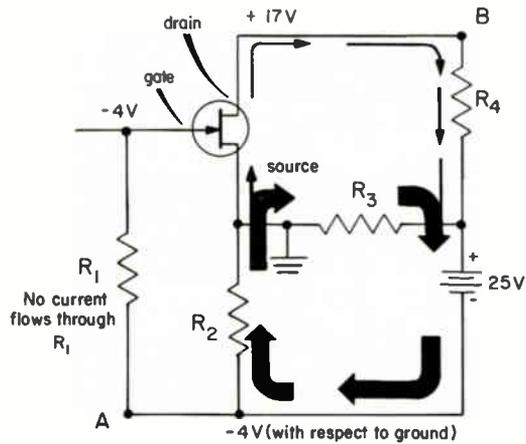

Fig. 34
1. The voltage of $+17$ V on the drain on Fig. 34 means that (*the voltage drop across R_4 is 17 V*) (*the drain is $+17$ V with respect to ground*).
2. The voltage from point *B* to ground in Fig. 34 is (*17 V*) (*8 V*).
3. The voltage at the positive terminal of the battery in Fig. 34 is (+25 V with respect to ground) (+25 V with respect to the negative terminal of the battery).
- 4. With respect to ground, the positive terminal of the battery in Fig. 34 is at (+25 V) (+17 V) (+21 V).
- 5. The voltage on the gate in Fig. 34, measured in relation to ground, is (+4 V) (-4 V).